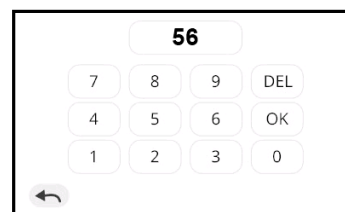

Figure 3. Keypad
- **SLED ON/OFF button (2):**
- **Keypad (3):** by clicking on the number, a keypad will appear (**Figure 3**). A percentage 0%-100% can be introduced by using it. You can erase a digit by pressing 'DEL'. Press 'OK' to confirm the percentage. If the value introduced is higher than 100%, it will be replaced by the previous valid percentage.